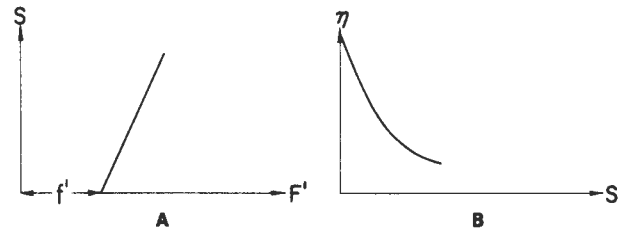

Figure 4-5
**PLASTIC.** This type of fluid will behave as a solid under static conditions. A certain amount of force must be applied to the fluid before any flow is induced; this force is called the "yield value." Tomato catsup is a good example of this type of fluid; its yield value will often make it refuse to pour from the bottle until the bottle is shaken or struck, allowing the catsup to gush freely. Once the yield value is exceeded and flow begins, plastic fluids may display Newtonian, pseudo-plastic, or dilatant flow characteristics. See Figure 4-5.